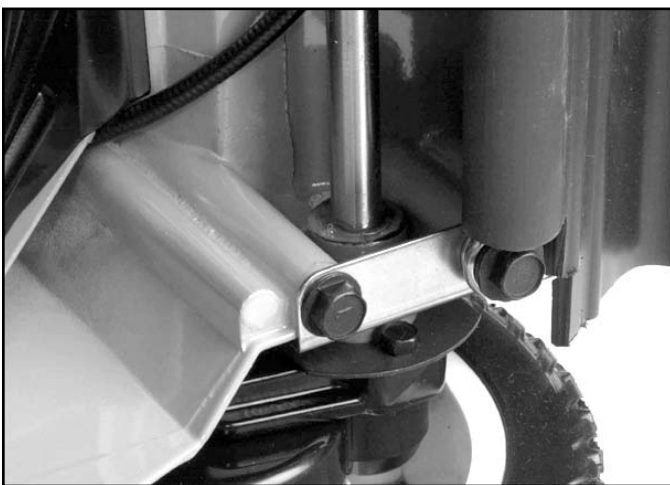

Fig 120
4. Remove 4 self-tapping screws securing end caps to housing (Fig. 120).